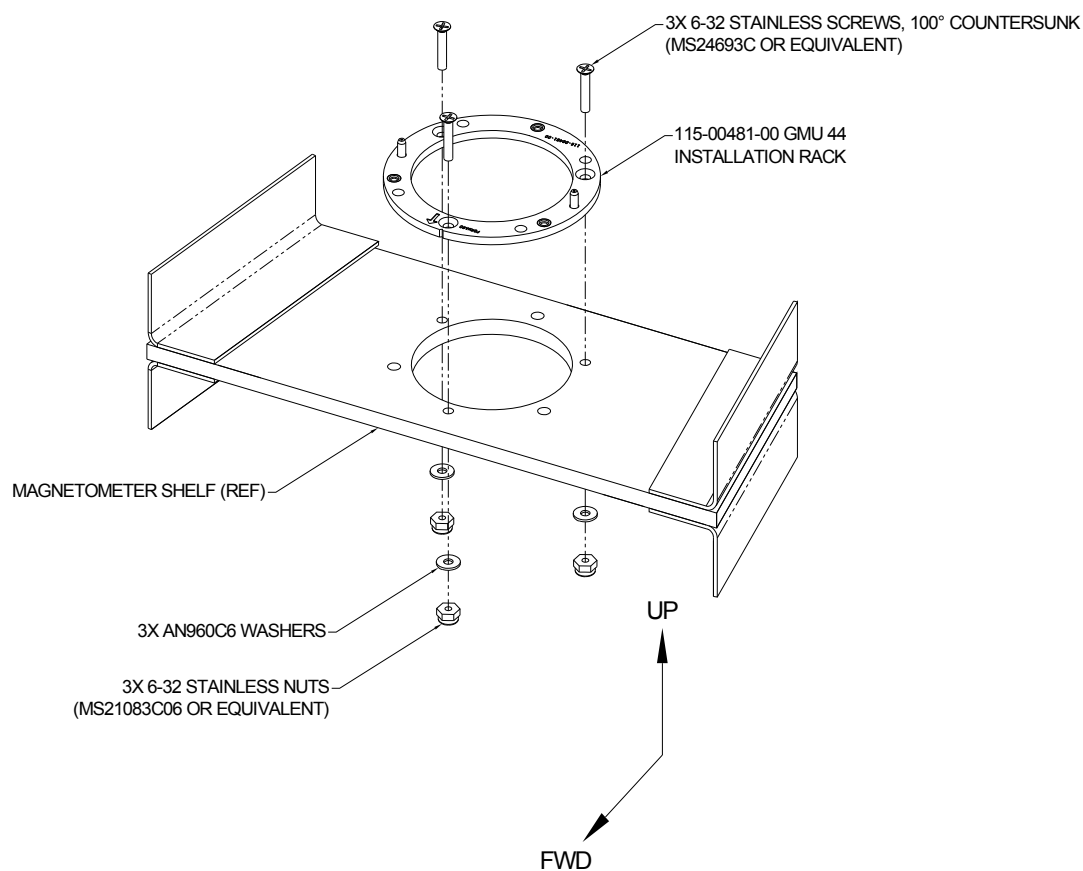

Figure C-27 Assembly Of GMU 44 Installation Rack To Magnetometer Shelf
7. Assemble the GMU 44 Installation Rack to the magnetometer shelf as shown in Figure C-27.